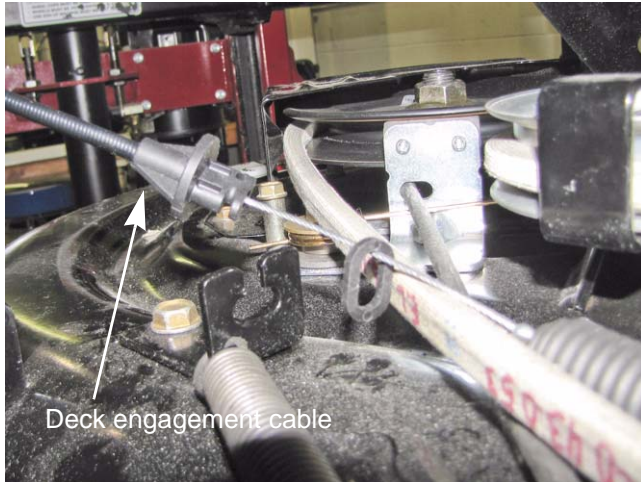

Figure 8.5
5. Pull back on the deck engagement cable. Lift it up and out of the slot in the cable bracket. See Figure 8.5.